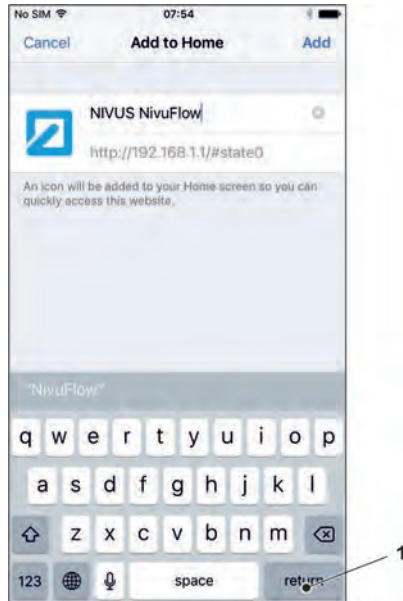

Fig. 31-18 Confirm adding
10. Confirm with "Return" (Fig. 31-18 Pos. 1).